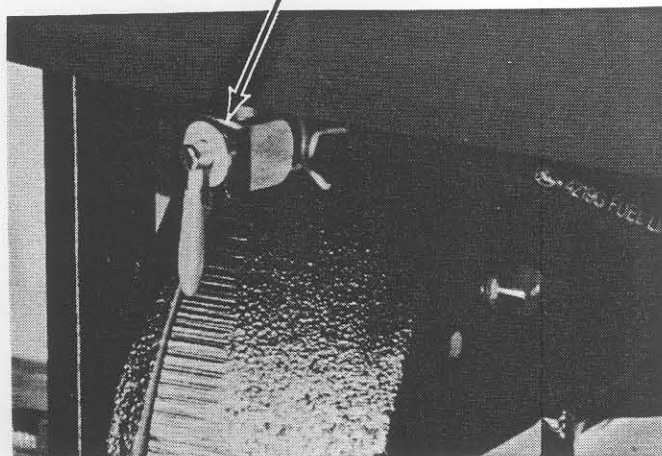

Figure 9. Fuel shutoff valve
1. Ensure that the fuel shutoff valve on the bottom side of the fuel tank is open (vertical). (Refer to Figure 9)